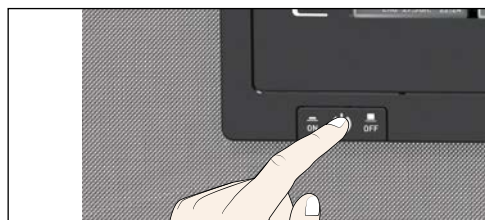

Fig. 18 Switch off appliance
- Switch off the appliance with the main switch (Fig. 18).